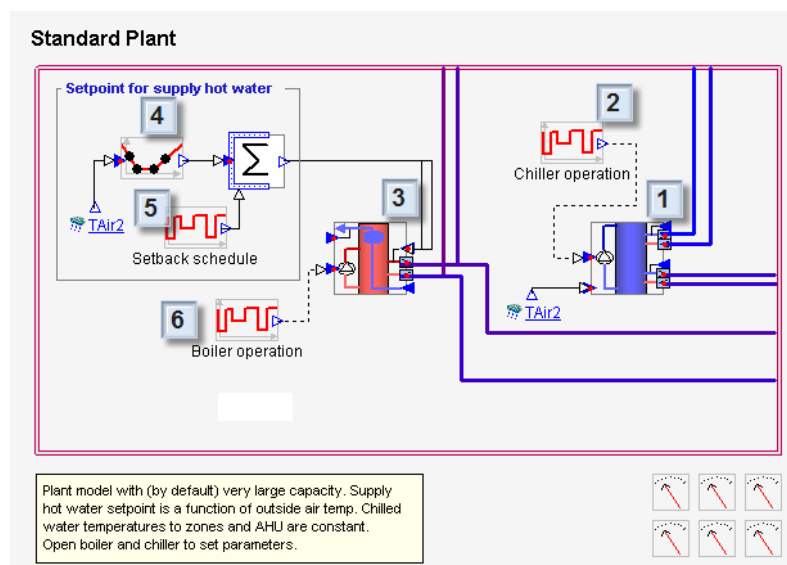

Figure 3.1. The primary system in the default configuration
In the default configuration, the primary system consists of seven components (designated 1-6 respectively in Figure 3.1): chiller (1) and a schedule (2) for its operation as well as a boiler (3), a controller (4) for hot water supply temperature and a schedule (5) for night setback operation. Also connected to the boiler is a schedule for its operation (6). The six energy meters in the lower right corner monitor energy consumption of various categories in the primary system.